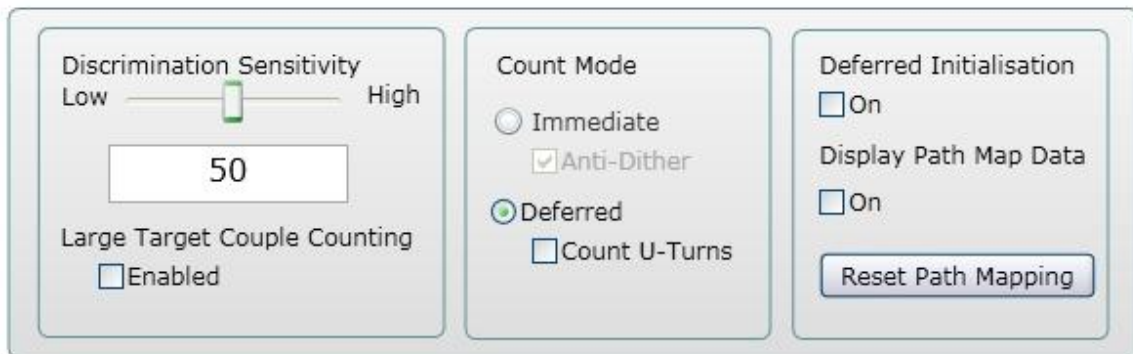

Figure 17
13. The options of the Advanced menu function as follows and an illustration of correct Advanced menu settings will be show in Figure 17 below: